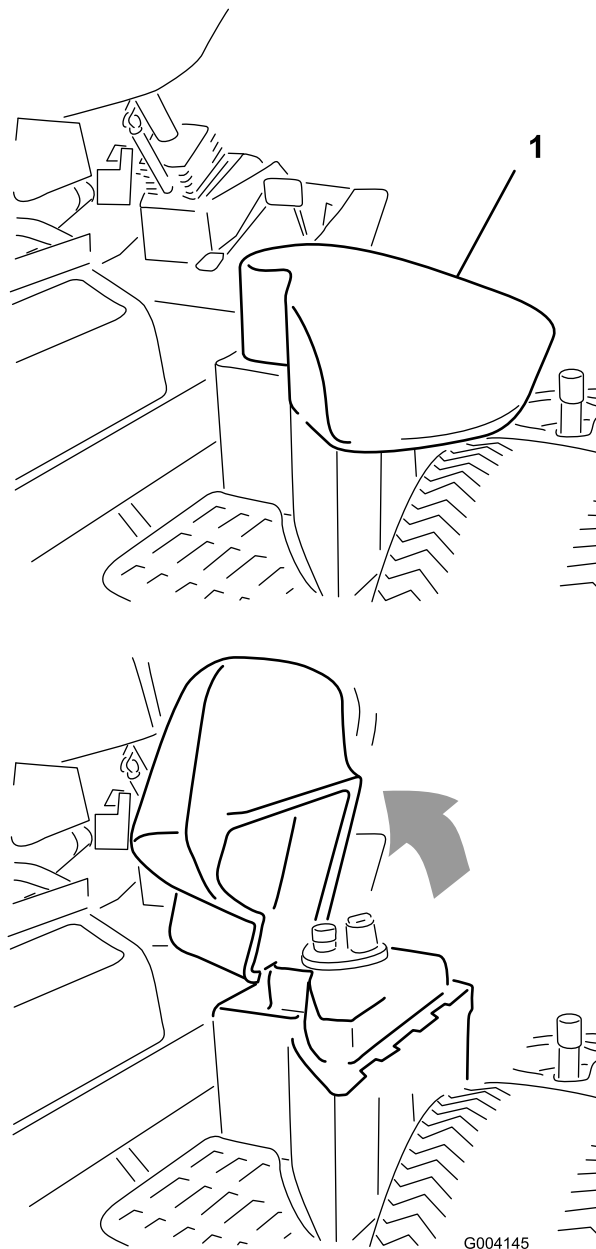

Figure 35
2. On the right side of the machine, raise the hydraulic tank cover (Figure 35).